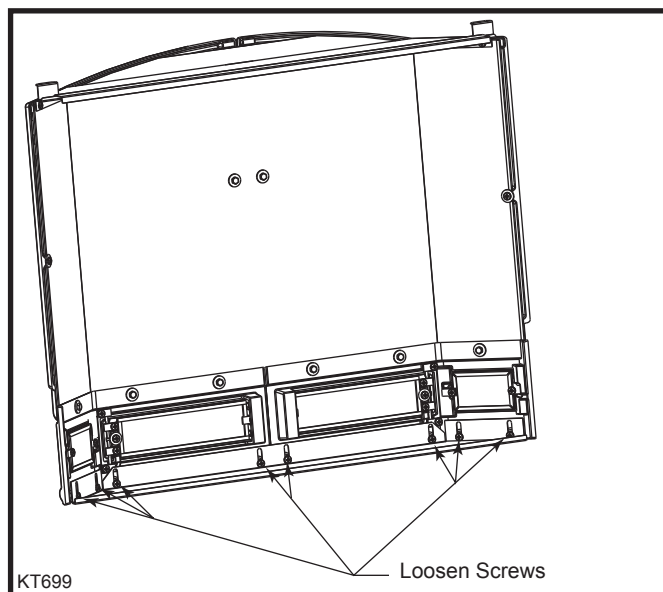

Fig. 6 Loosen screws to adjust bottom flange.
4. Loosen the 8 screws on the bottom flange, but do not remove, and lower the bottom flange down by the amount you measured minus $1/16"$. Retighten screws. (Fig. 6)